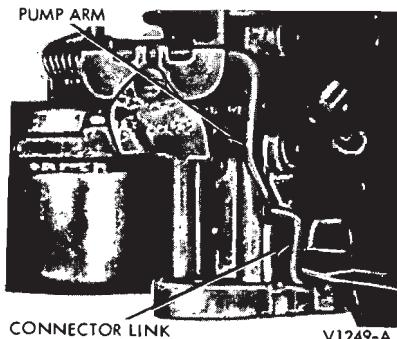

FIG. 4—Adjusting Accelerating Pump Stroke
4. To adjust the stroke to specifications, open or close the pump connector link at the offset portion (Fig. 4).